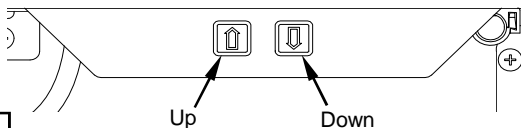

Figure 1
- To raise or lower the lectern, press and hold the "up" or "down" arrow keys until the desired height is achieved. **Figure 1**. The worksurface can be raised to a maximum height of 40" and lowered to a minimum height of 28". The lift actuators are rated at a maximum of 180lbs.